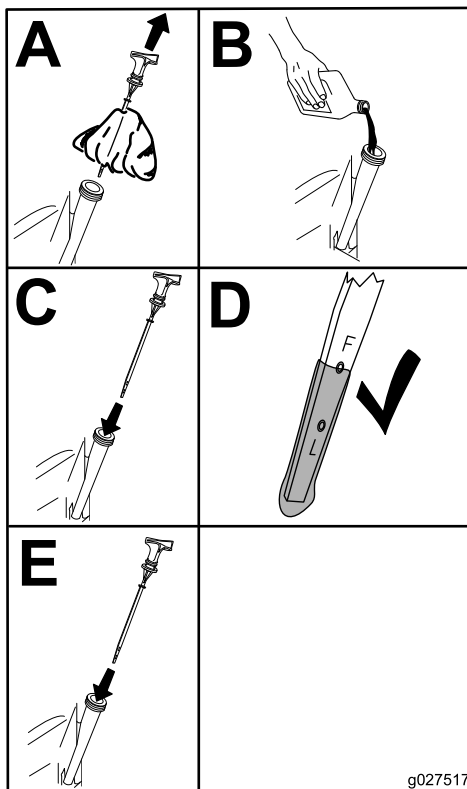

Figure 35
5. Slowly pour approximately 80% of the specified oil into the filler tube (Figure 35).